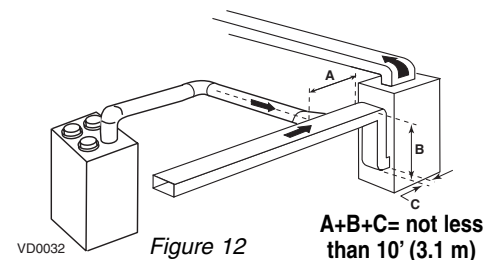

Figure 12
- Connect this opening to the fresh air distribution port of the HRV (see Figure 12).